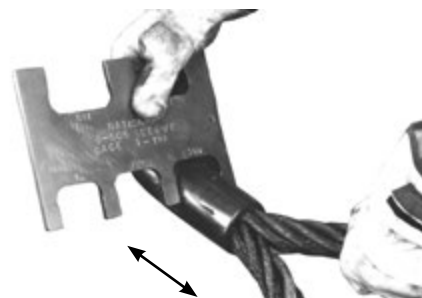

Figure 1
When swaged properly, the gauge will go up and down (see Figure 1) and around the full length of the fitting (see Figure 2).
1. The eye of the sling must be in the choked position (around live line). Choker hitch applications should comply with the requirements of ASME B30.9 Slings. Install the choker hitch to provide a minimum choke angle of 120 degrees (See Figure 1). Refer to ASME B30.9 for required de-rating of the sling if choke angle is less than 120 degrees.